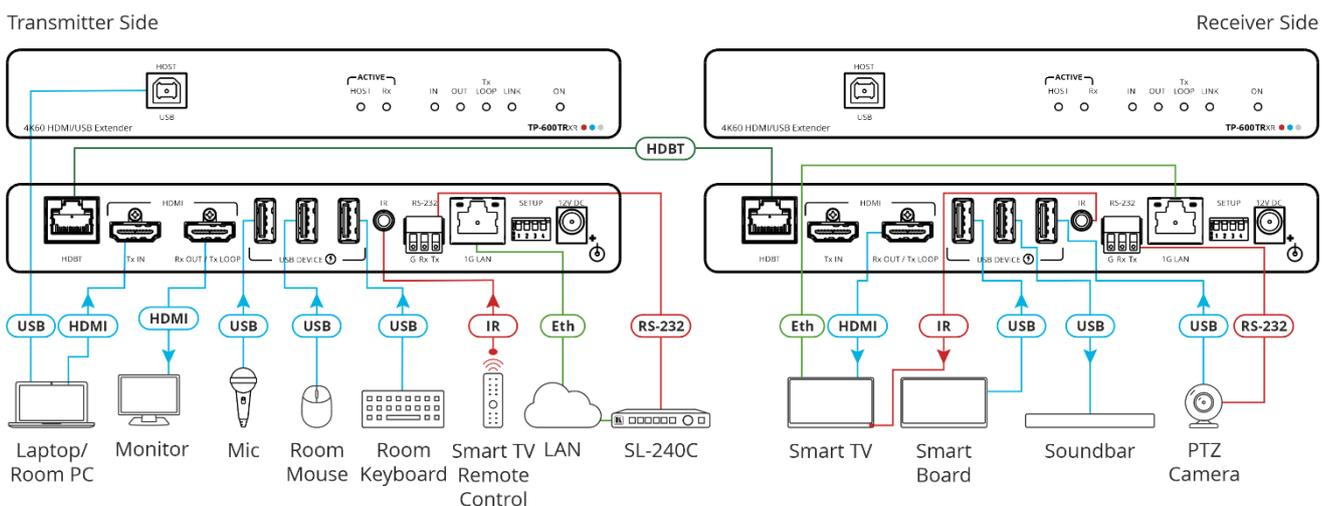

Figure 5: Connecting to TP-600TRxr
To connect TP-600TRxr as illustrated in the example in Figure 5:
10. Connect the power adapter to **TP-600TRxr** and to the mains electricity (not shown in Figure 5).
To connect TP-600TR as illustrated in the example in Figure 5:
9. Connect the power adapter to **TP-600TR** and to the mains electricity (not shown in Figure 5).